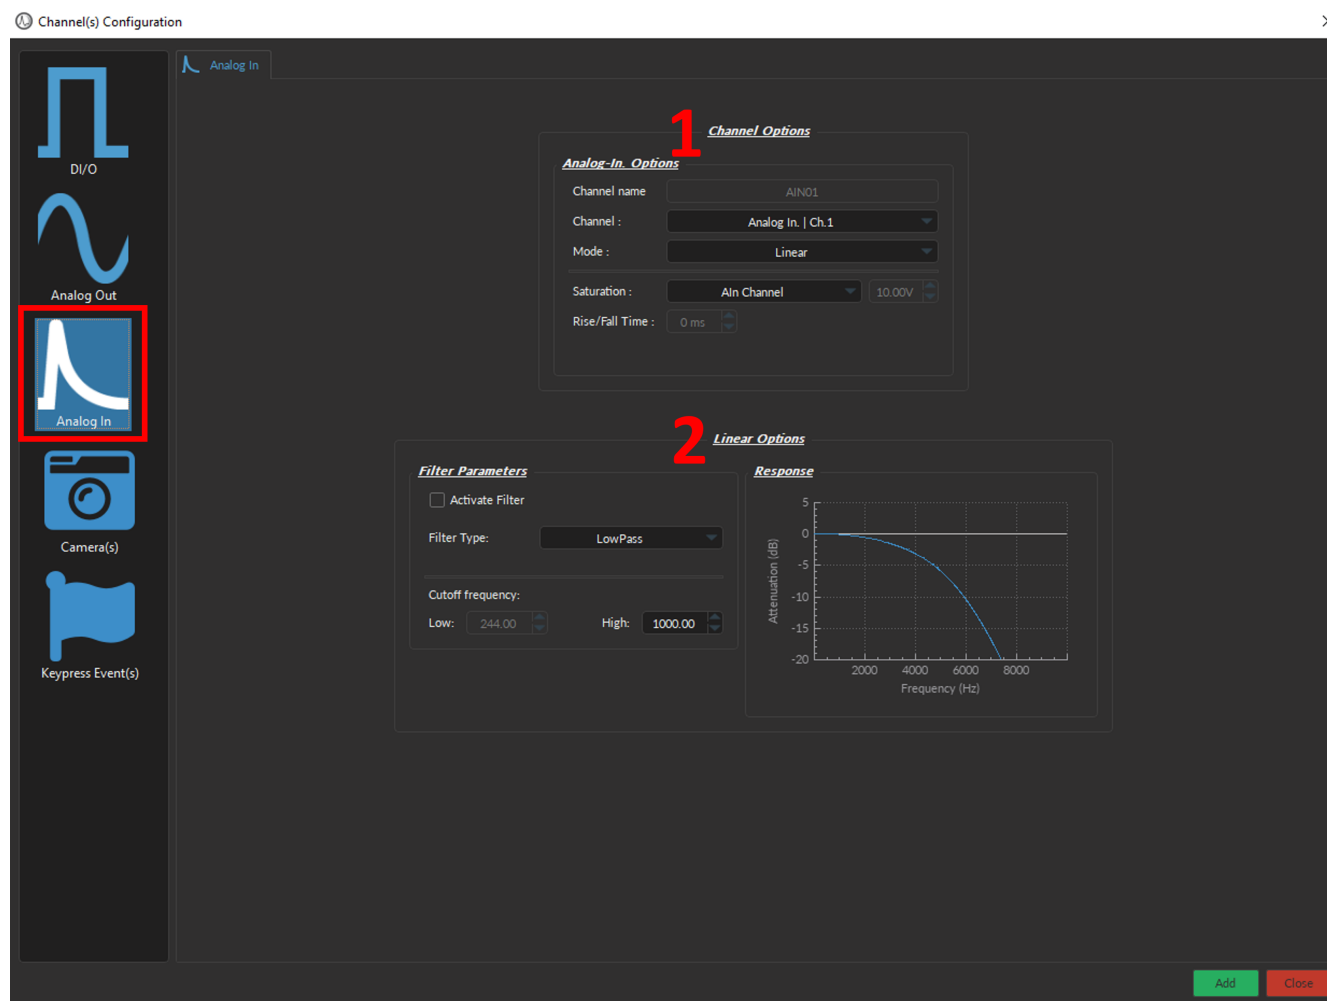

Figure 5.26: Channel(s) Configuration, Analog Input
The *Channel(s) Configuration* window for the **Analog Input** is divided into two sections (Fig. 5.26): (1) the **Channel Options** (Section 5.4.5.1) and (2) the **Mode-specific Options** (*Linear*, Section 5.4.5.2; *Interleaved*, Section 5.4.5.3; *Lock-In*, Section 5.4.5.4).